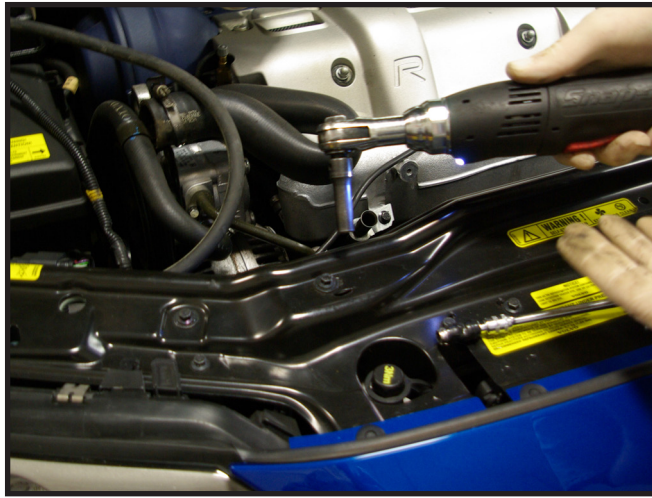

Fig 1
- 10 Remove the two small bolts at the top of the combined cooler assembly (fig1). Then the two main support bolts (at each end of the radiator) will need to be accessed from below (fig 2). The entire assembly should now be loose and you can lower the assembly down on the driver side (fig 3).